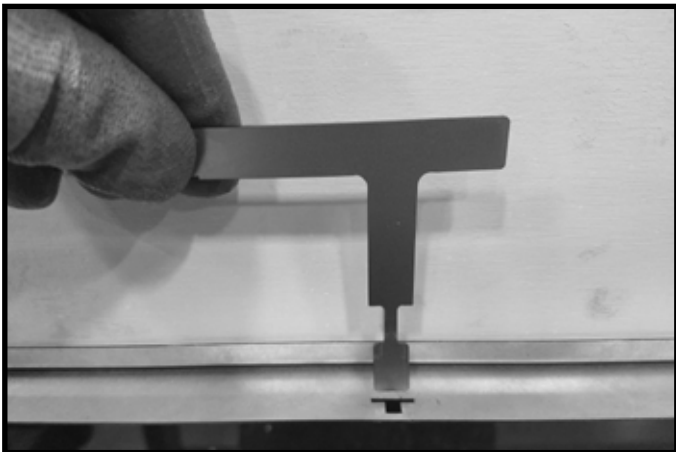

Figure 14 Pull Tool Inserted Into Slot
6. Insert pull tool into slots on left and right sides of appliance. See Figure 14.